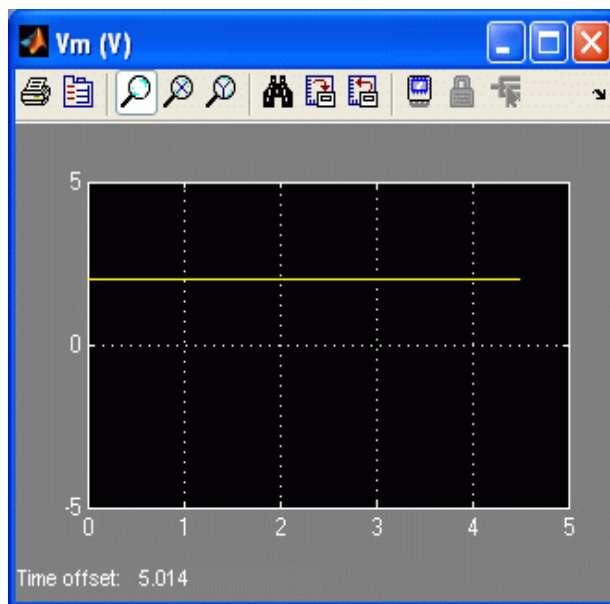

Figure 6: Constant input motor voltage.
3. Set the *Amplitude (V)* slider gain to 0.0 V.
4. Set the *Offset (V)* block to 2.0 V.
5. Open the load shaft speed scope, $w_l \text{ (rad/s)}$, and the motor input voltage scope, $V_m \text{ (V)}$.
7. Select QUARC | Start to begin running the controller. The SRV02 unit should begin rotating in one constant direction. The scopes should be reading something similar to as shown in figures 6 and 7. Note that in the $w_l \text{ (rad/s)}$ scope, the yellow trace is the measured speed while the purple trace is the simulated speed (generated by the *SRV02 Model* block).